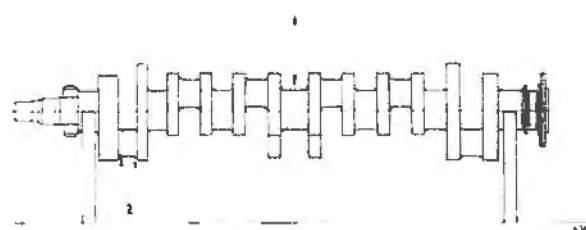

Fig. E13 Crankshaft bow parallelism
3. Turn the shaft in the blocks and test for bowing on the centre journal by means of the dial indicator gauge. The maximum permissible bow before re-grinding is 0.010 in. Over this figure, a Service replacement shaft should be fitted. The errors due to ovality of the journals must be taken into account in arriving at the figure for bowing which will be half the maximum dial reading of the indicator. Next, turn the shaft so that the webs of each crankpin are first at 45 deg. and then at 135 deg. to the table and check the crankpins in each position for parallelism (see Fig. E13).